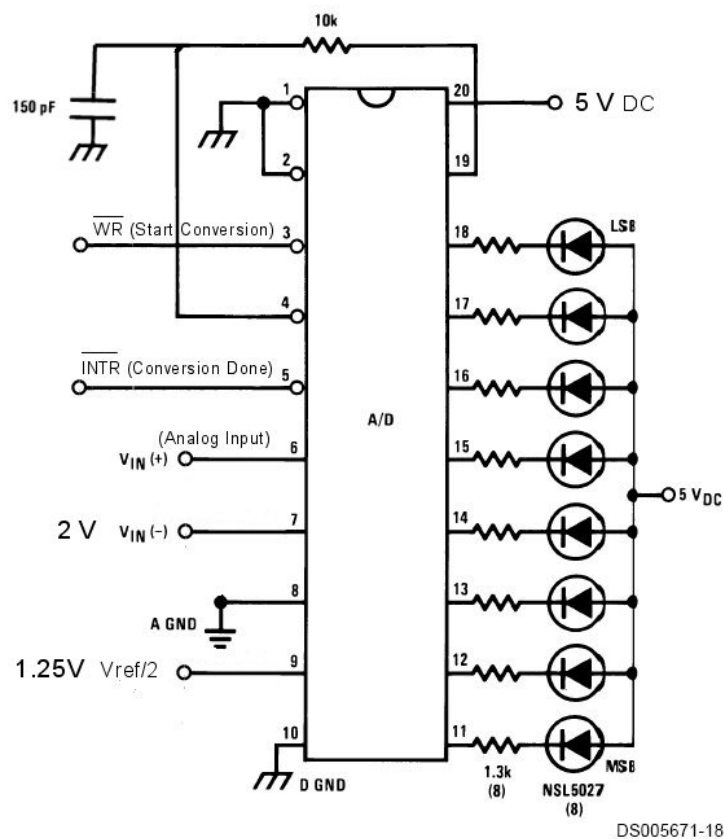

Figure 2: Suggested ADC0804 Circuit
5. Given the schematic of Figure 2 (notably the RC circuit tied to pins 19 and 4), what is the designed frequency of the converter (see ADC0804 datasheet).